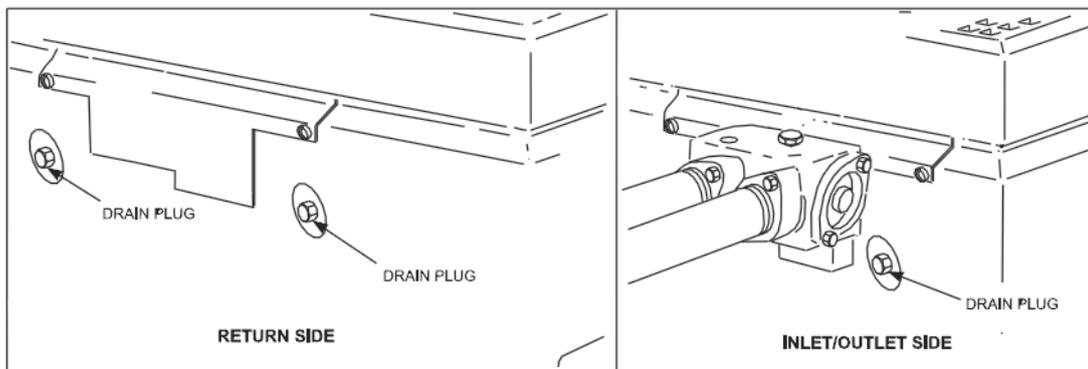

Figure 20. Heater drain locations.
3. Remove the drain plugs from the return header (see Figure 20), loosen the drain plug from the inlet/outlet header, and completely drain the heat exchanger.